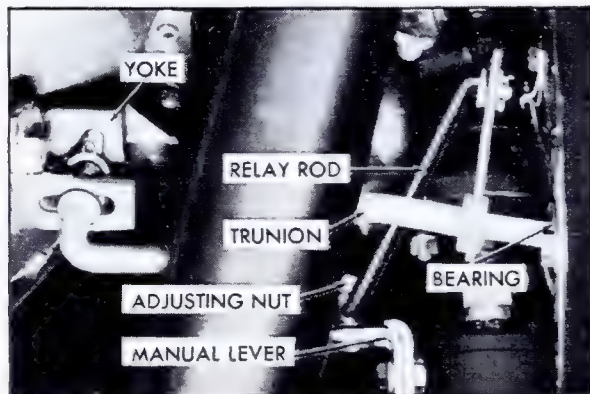

Fig. 7-32 Adjusting Manual Linkage
4. Manual Linkage Adjustments (Fig. 7-32)